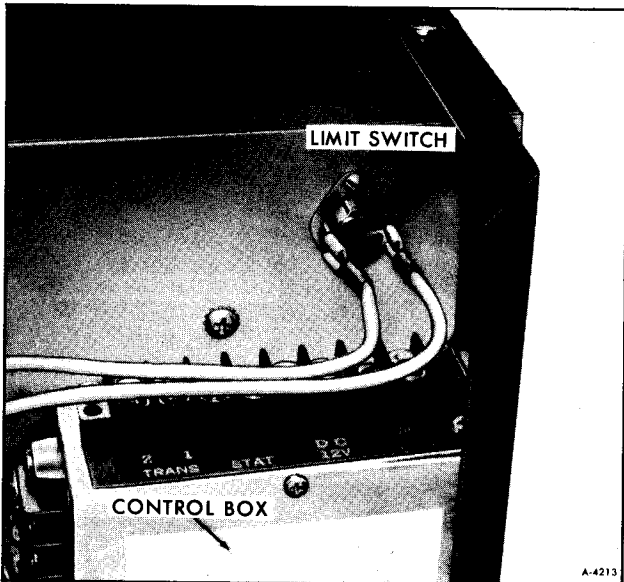

Figure 17—Location of Limit Switch
2. Install two screws retaining limit switch to combustion chamber (See figure 17).